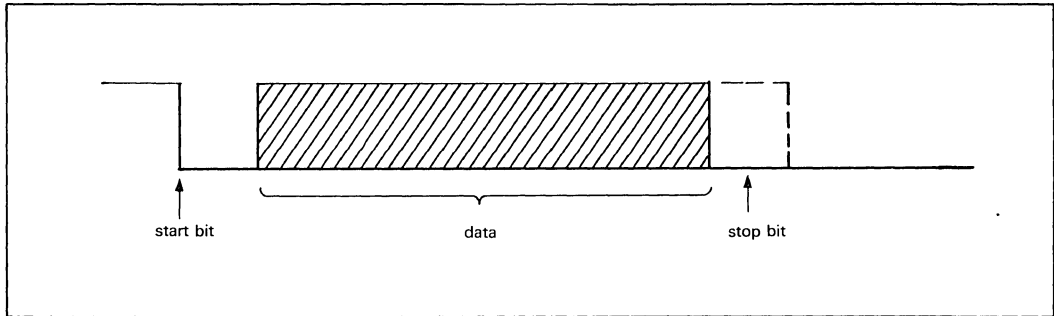

Figure III-4. Framing Error
**Question:** When a framing error occurs while the serial communication interface (SCI) is receiving data in the asynchronous mode as shown in figure III-4, can the SCI receive the next data?